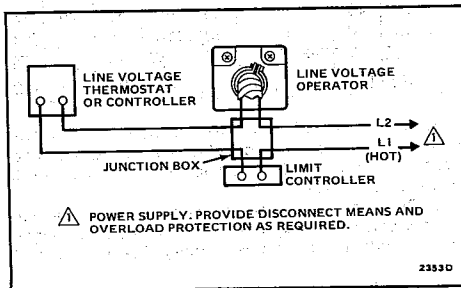

Fig. 7—Typical wiring for 120 V system.
7. Make the mechanical and wiring connections at the junction box. See Fig. 7.